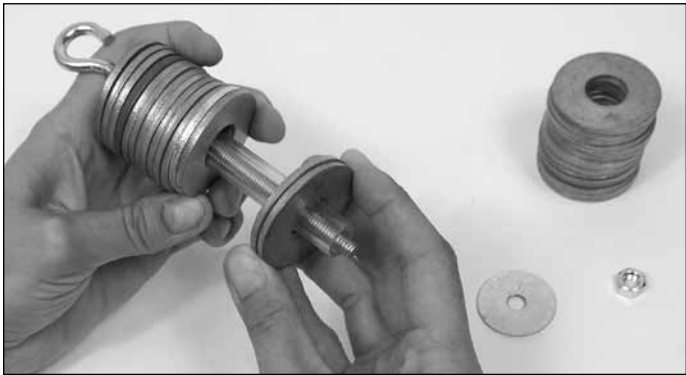

Figure 20
1. To build the counterweight, take the 5" eyebolt and insert it into the clear tube. Holding these together, thread as many flat washers as you wish to use as counterweight over the tube (Figure 20). Place the large washer over the last flat washer and thread the nut over the eyebolt end to secure the weight.